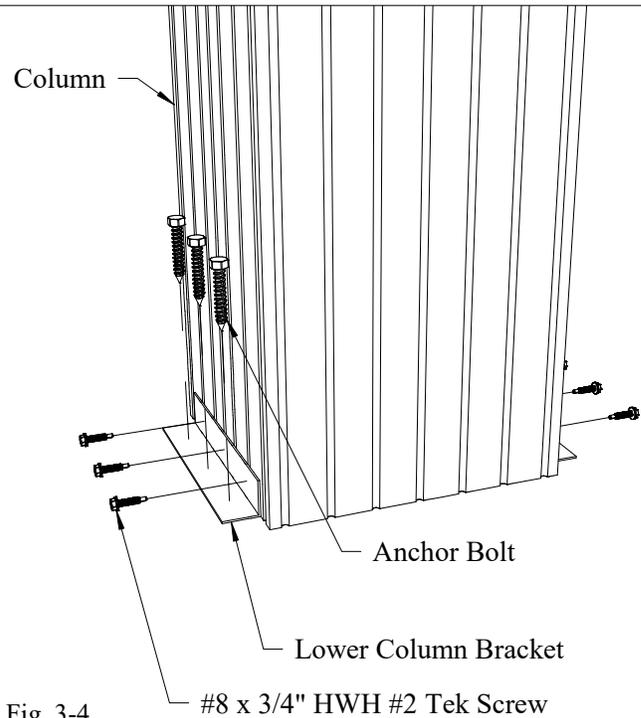

Fig. 3-4
- Anchor the bottom of the column with two lower column brackets and (6) anchor bolts into the surface, and (6) #8 x 3/4" HWH #2 Tek screws into the column (see Fig. 3-4).